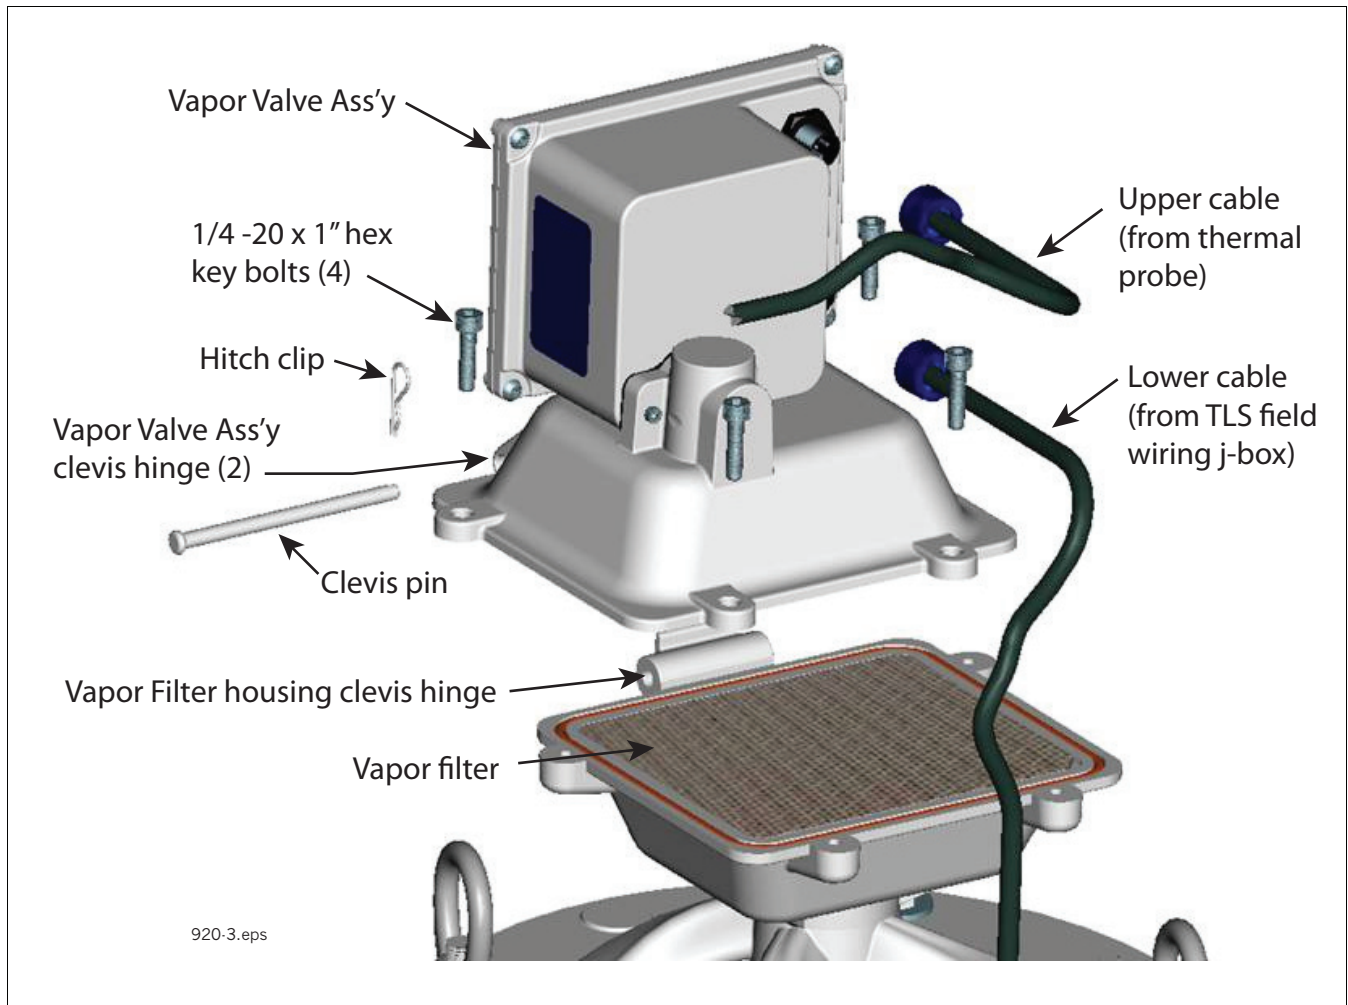

Figure 18. Replacing vapor valve assembly
3. Remove the hitch clip from the long clevis pin in the front hinge of the vapor valve assembly and vapor valve filter housing (see Figure 18).